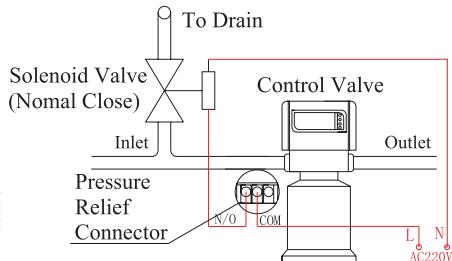

Figure 3-3 Wiring of
- **Method2:** the wiring refers to Figure 3-3. It uses the two wiring terminals(N/O, Normal Open terminals) of the Signal Output Connector(**CN07**) to control pressure relief solenoid valve.
As is shown in Figure 3-3, when the valve is at position of Service, Backwash,